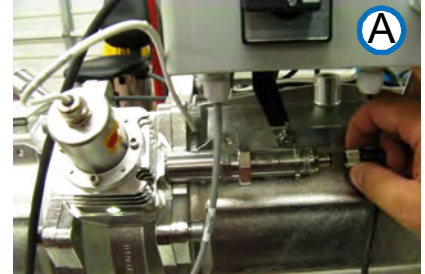

Figure 10-26: Replacing the Sensors (Generic View 1)
Step 1. To disconnect the harness connector (shown in view **A** in **Figure 10-26**), unscrew the sensor's threaded locking nut.